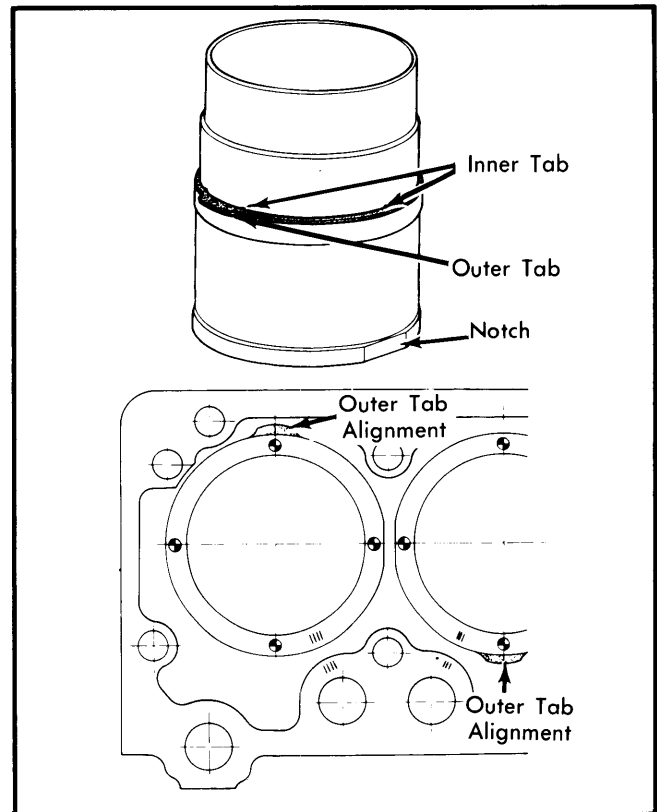

Fig. 9 Cylinder Liner Gasket Installation
4) Fit gasket on liner. Engage gasket inner tabs in liner grooves. See Fig. 9. Position tab with reference mark at right angles to flat. Position liners with outer tabs in position. Install suitable liner compressor tools to block. Seat liners and ensure protrusion is correct. Remove compressor tools and install liner locks.